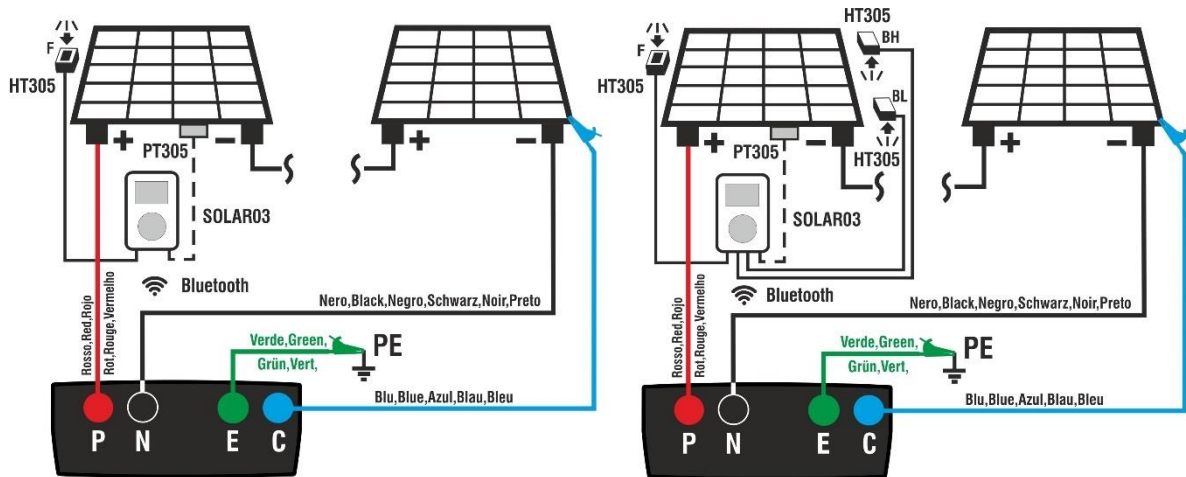

Fig. 11: Connection of SOLAR03 in direct connection on Mono/Bifacial PV modules
2. Connect the instrument to the PV module/string being tested and to the main earth node of the system, and to the metal masses connected to earth as shown in Fig. 11. In detail: